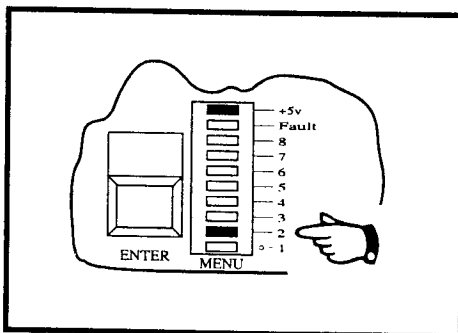

Figure 3-7
- (b) Press the **FUNCTION** key **TWICE**. The LED segment labelled **2** on the **Menu** display should illuminate. This identifies the SPAN menu function. See Figure 3-7.
- (h) Press the blue **FUNCTION** key **ONCE**. The segment labelled **2** on the **Menu** display should illuminate. This segment identifies the SPAN menu function. See Figure 3-7.